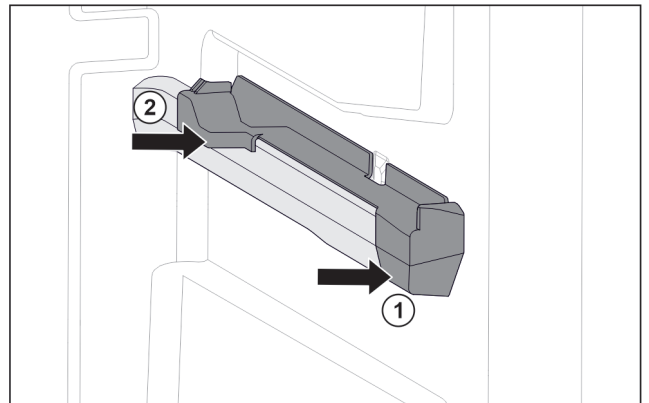

Fig. 60 Attachment on the right moulded rib
- ▶ Position attachment on moulded rib at the front. Fig. 60 (1)
- ▶ Press on attachment at the back. Fig. 60 (2)